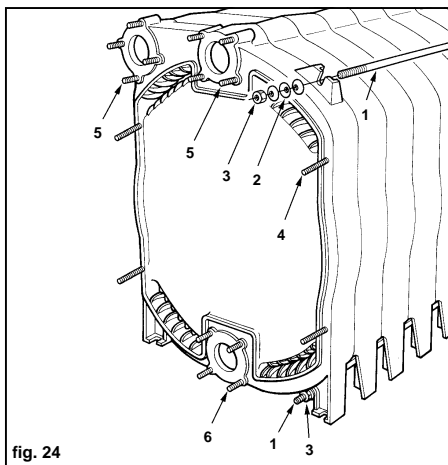

fig. 24
**12** (fig. 24) Fit the following on the rear side of the boiler body: